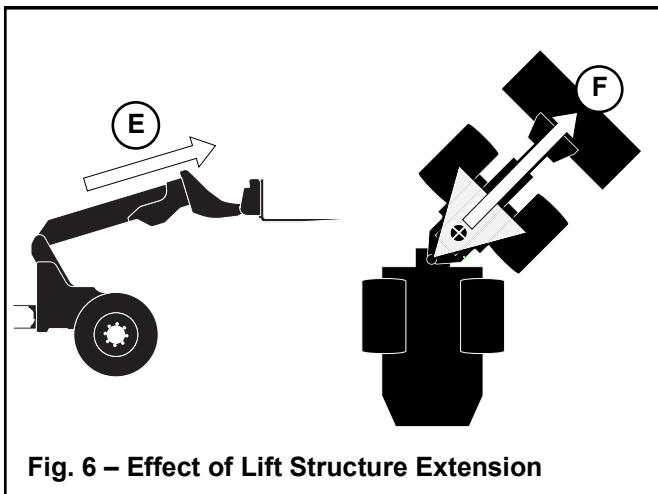

Fig. 6 – Effect of Lift Structure Extension
Extending the lift structure (E, Fig. 6) moves the load center forward (F). To avoid overturn accidents, make sure that the load stays within the rated capacity for the lift structure angle and extension. Consider all operating conditions before extending the lift structure. Refer to the following sections: